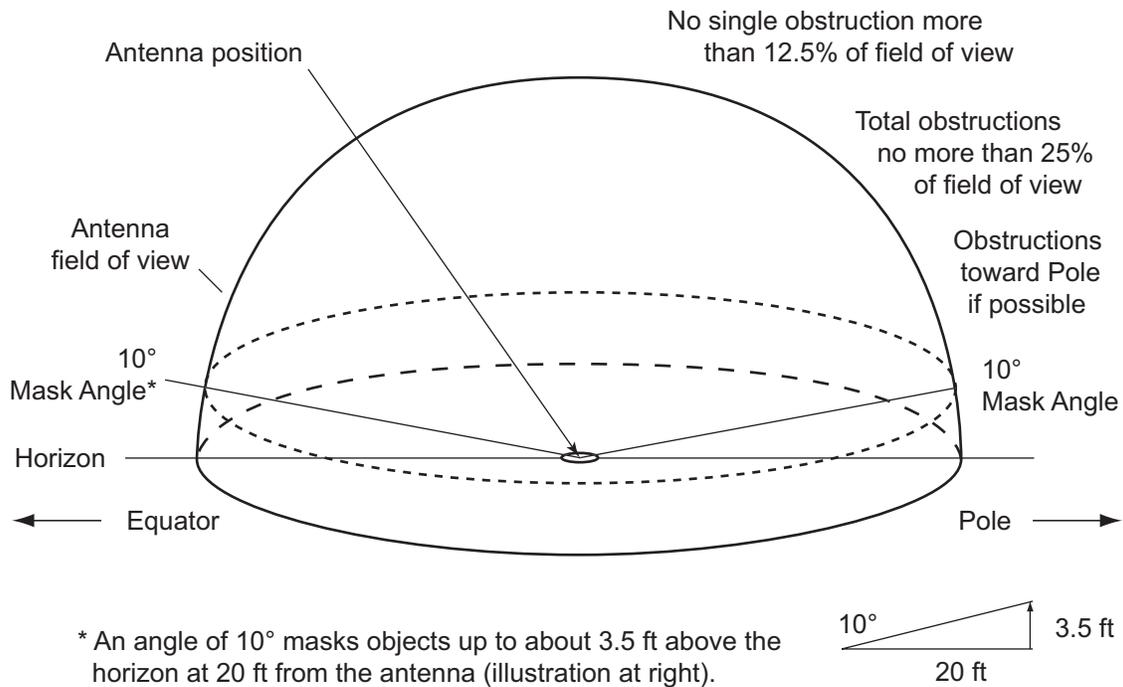

Figure C-1. Locating the GPS Antenna
Use Figure C-1 as a guide to locating the antenna.
- In general, do not allow obstructions that obscure the horizon (as viewed from the antenna) by more than 10 degrees, as shown in Figure C-1.